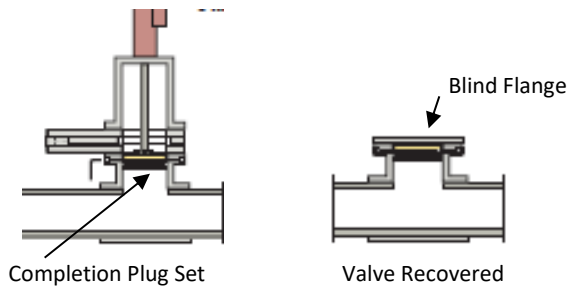

Figure 7 Completion plug set and blind flange installed
4. Placing the tapping machine on the isolation valve, opening the isolation valve, inserting the completion plug, removing the tapping machine, removing the isolation valve and installing a blind flange (Figure 7).